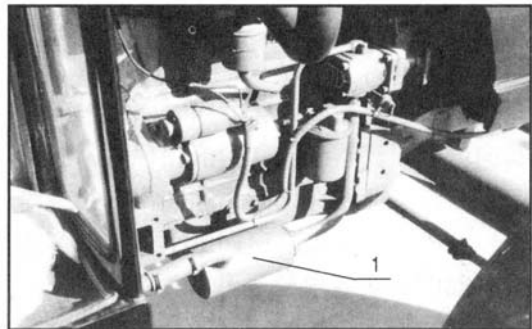

Fig 36 Location map of Fuel Strainer
c. After a new tractor works 100hours, oil filter should be checked (See Fig.36) and wash the filter element.